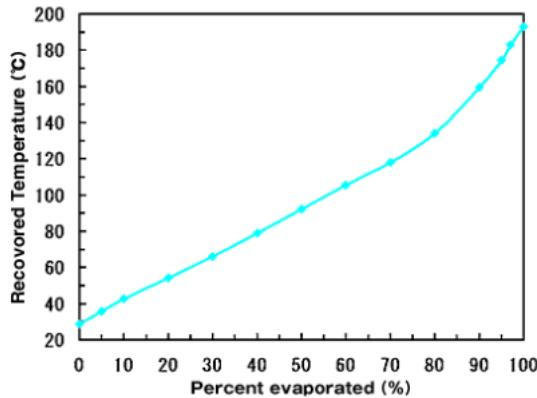

Figure 3.3
- In a spark ignition engine we will mix air and fuel before injection, we should get a precise state before combustion. The important is that when the fuel air mixture is in the cylinder, the fuel must evaporate in the air. At the end of the compression stroke, we want the fuel to be completely evaporated. This is the criterion of **volatility**. The testings are done in lab. For a good cold engine start, we can have 10% of the liquid evaporated and in hot engine 90% (avoids condensation and lubrication oil dilution). If the fuel is too volatile, we will get vapor locks in the fuel supply. Indeed, the fuel is pumped. This process creates heat and if the fuel is volatile, we can have an underpressure at the inlet of the pump, that will block the machinery (Figure 3.3).